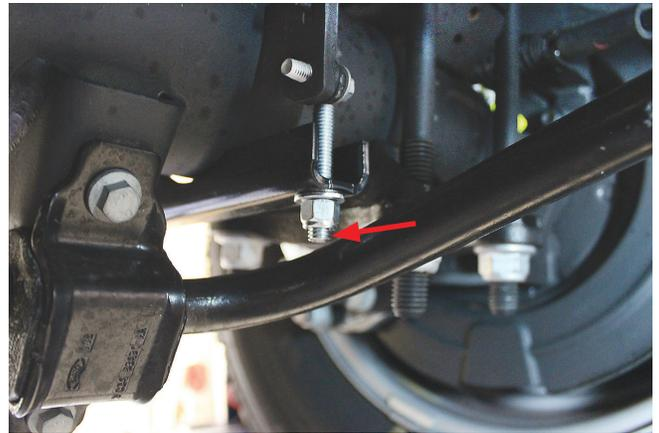

Fig. 25
- On vehicles that have a sway bar, cut the front carriage bolt just below the nut so it does not contact the sway bar (Fig. 25).